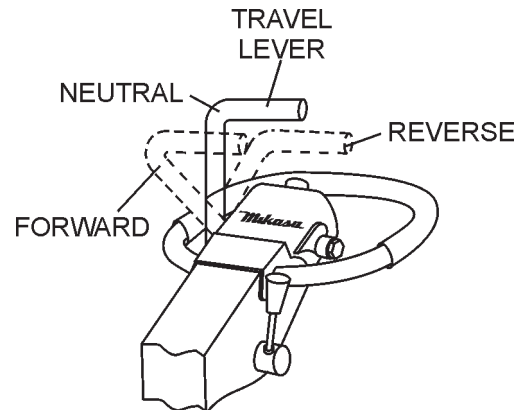

Figure 19. Travel Lever
- To make the compactor move in the forward direction push the travel lever (Figure 19) forward.